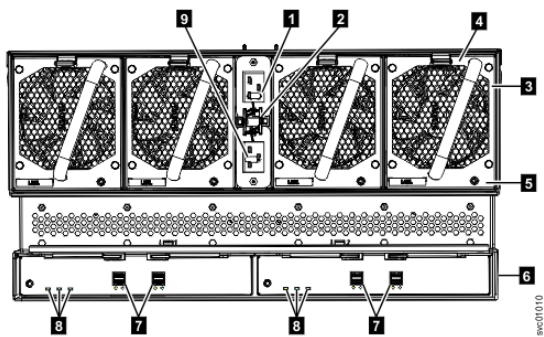
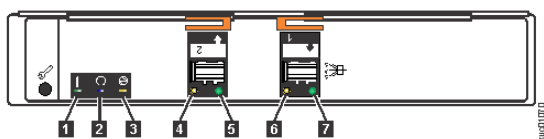

Figure 185. LEDs on the back of the expansion enclosure
Figure 186. LEDs on the back of the expansion canister
Table 68 on page 224 explains the function and status that is indicated by each of the LEDs. The power cords for each PSU are accessible from the rear of the expansion enclosure (1), as shown in Figure 185 on page 226.
Figure 185 on page 226 shows the rear view of a expansion enclosure. LEDs on the rear of the enclosure provide information about each fan module, each expansion canister, and SAS links.
The expansion enclosure has four fans. Each fan has one LED; for example, Figure 185 on page 226 shows the location of the LED (5) for fan number four. When a fan is operating normally, the LED is not lit. If a fault is detected, the amber LED is lit.
As Figure 185 on page 226 also shows, the expansion enclosure contains two expansion canisters. Each expansion canister contains its own set of LEDs, as shown in Figure 186 on page 226. The LEDs provide status information about the expansion canister itself and the SAS connections.